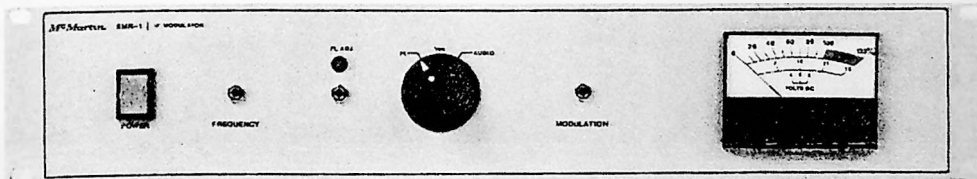
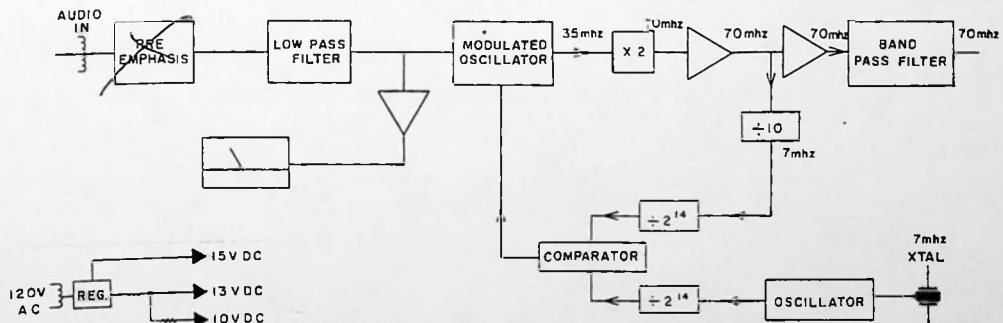

FIGURE 1
FIGURE 2
- Figure 1 Front View photograph
- Figure 2 Block Diagram
Figure 1 is a photograph of the SMR-1 Coordination Channel Modulator showing front panel controls and adjustments. Table 1 presents the Technical Specifications for this equipment.
Figure 2 is a block diagram showing the general circuit arrangement of the SMR-1.
1. Connect scope to TP-D and observe waveform. It should be very close to that shown in Fig.1. This verifies operation of crystal oscillator and 2^{14} (Q11, Q12, and IC3).
2. Connect scope to TP-C and note waveform. It should appear as in Fig.2.
3. Compare frequency at TP-C with frequency at TP-D. (Oscilloscope is sufficiently accurate.) NOTE: Both Fig. 1 and Fig. 2 show 2.6 cycles indicating similar frequencies. If the two are not the same, tune L1 until they are. If waveform at TP-C disappears, retune L2 and L3 as before at TP-A. If L1 appears to have insufficient range, C15 may need to be changed; 56 pf to raise, 32 pf to lower. Corresponding changes may be required to C26 (add) C30 and C35.